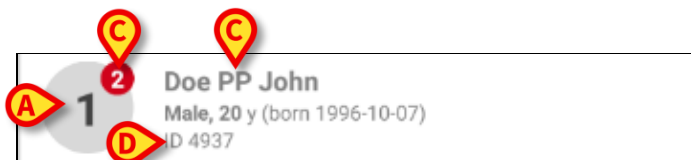

Fig 59
Each bed is represented by a tile (Fig 59).
- bed number (Fig 59 **A**);
- number of notifications overdue (if any - Fig 59 **B**);
- name of patient on that bed (Fig 59 **C**);
- patient data (if available: sex, age, date of birth, patient ID - Fig 59 **D**).